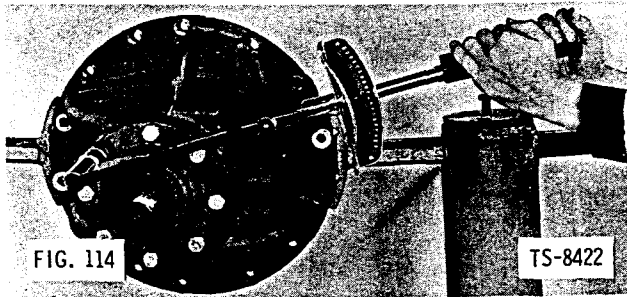

FIG. 114
5. Install gasket and pinion oil seal retainer. Secure with bolts and tighten to specified torque (Fig. 114).